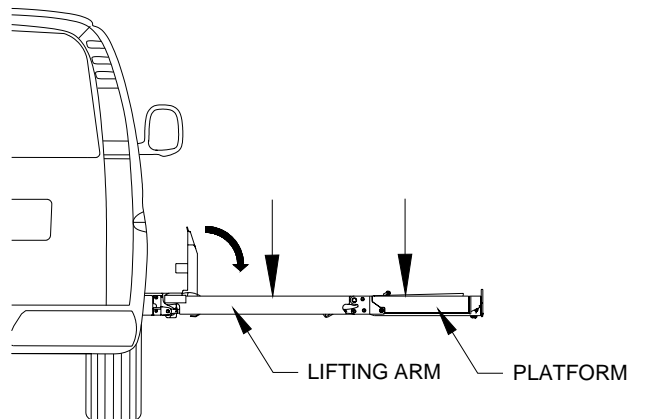

FIGURE 2-16: PLATFORM ALIGNED WITH ENCLOSURE
- 1) Refer to **Figure 2-16**. Raise the platform with the manual backup pump until it is about 10" above stow height. Slightly open the pressure release valve. Go to the lift carriage and push one of the stow latches down until it contacts the hydraulic cylinder piston rod. Wait for the platform to settle on the stow latches then release the latch. The platform is now at stow height.